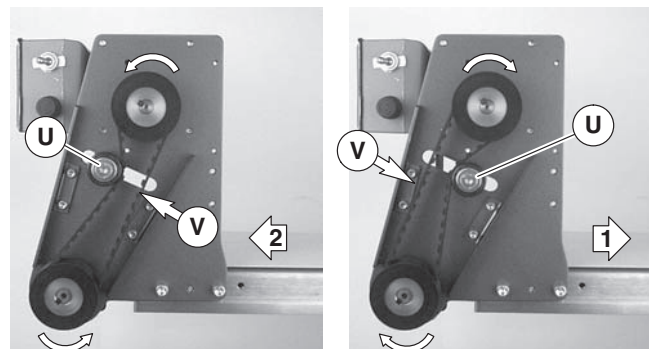

Figure 16
3. Depending on direction of conveyor belt travel (1 or 2 of Figure 16), position timing belt tensioner (U) as shown. Tension timing belt to obtain 1/8" (3 mm) deflection for 1 lb (456) grams of force at timing belt mid-point (V). Tighten tensioner screw to 106 in-lb (12 Nm).
5. Depending on direction of conveyor belt travel (1 or 2 of Figure 16), position timing belt tensioner (U) as shown. Tension timing belt to obtain 1/8" (3 mm) deflection for 1 lb (456 grams) of force at timing belt mid-point (V). Tighten tensioner screw to 106 in-lb (12 Nm).